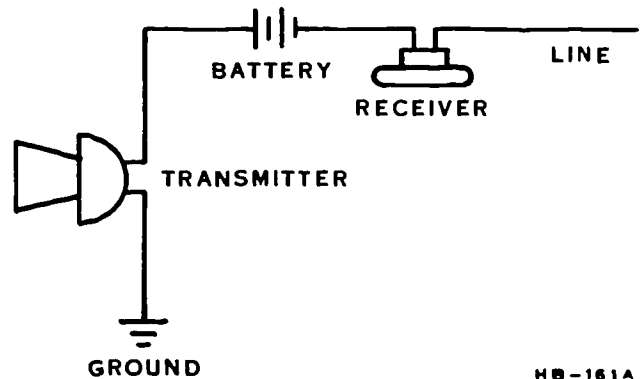
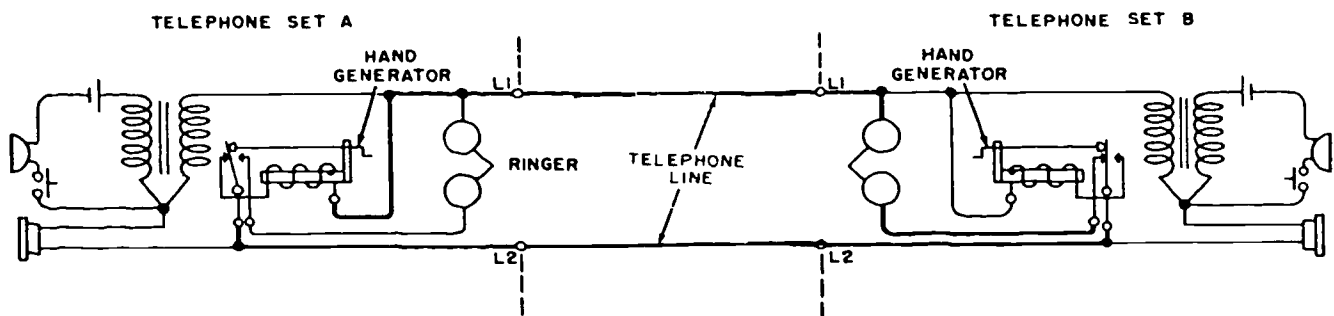

Figure 6-7. Schematic of a simple local-battery telephone circuit.
Figure 6-9. Signaling circuit of two local-battery telephone sets.
in figure 6-7. Note that each unit in this transmitter-receiver circuit is labeled and indicated by its standard symbol. This local-battery circuit was the granddaddy of the modern telephone. By connecting this telephone through a single line to another identical unit, conversation was carried from one point to another. This circuitry, however, did leave much to be desired.
048. Using figure 6-9, name four components for a local battery system and specify characteristics to be noted.
Comparing the simple circuit of figure 6-7 with the circuit of figure 6-9, we see that additional units were added to the simple circuit as refinements. Such units as a push-type switch, a ringer, and a hand generator were added to the circuit. These devices enabled a person at either end to signal another party.
Note in figure 6-9 that each telephone is powered by a battery that is connected in series with the transmitter and the primary winding of the induction coil. Also, note the push-to-talk switch located in each primary circuit just below the transmitter. This switch saves battery current because it opens the primary circuit during the time that sound is being received.
While there are only two telephones shown in figure 6-9, it is possible to connect several to a telephone line in a local battery system. Of course, when several telephones are connected to the same pair of telephone lines, a coded ringing system has been used. This is necessary because the operation of any one of the hand generators on the line will operate the ringers on all of the telephones.
Sidetone is the effect of hearing your own voice in the telephone receiver as you talk into the transmitter. The sidetone in a circuit such as that shown in figure 6-9 would be rather loud, because both telephone receivers are connected in a series circuit along with the secondary windings of both induction coils and the connecting telephone line. The voice current produced in this series circuit by a person speaking into the transmitter of either telephone passes through both receivers and is reproduced as a sound wave of speech in each one. Therefore, the persons using these telephones would hear their own voices reproduced in their own receivers.
1. Identify the power supply for the transmitter circuit of figure 6-9.
2. What component at each telephone set of figure 6-9 improved the efficiency of the system by its transformer action?
In the telephone system shown in figure 6-9, the voice current in the telephone set of the speaker is greater than the voice current in the set of the listener. The reason is that the resistance of the telephone line opposes the voice currents, reducing their value before they reach the receiving end of the circuit. In addition, the voice current in the secondary winding is increased by the transformer action of the induction coil. This increased voice current, passing through the receiver of the speaker, further increases its output of sidetone.